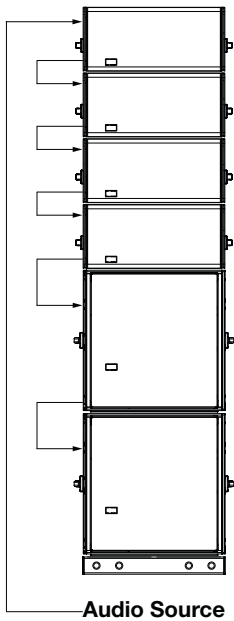

Figure 5: Mixed Groundstack
- Mixed groundstacks of LEOPARDs and 900-LFCs (Figure 5)